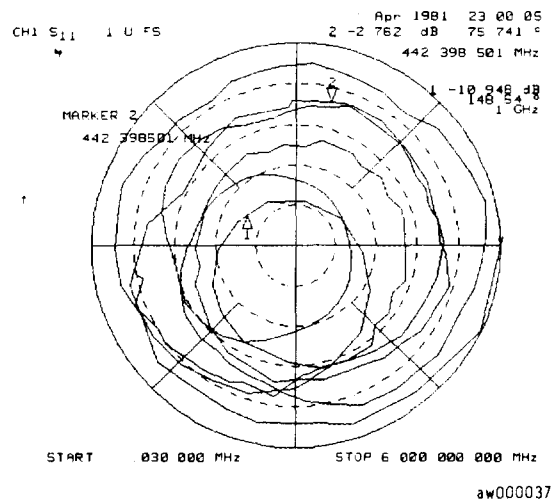

Figure 7-19. Example S₁₁ Measurement Trace in Polar Format with Markers
- 2 Press **SCALE REF**, *AUTO SCALE* to reposition the trace as shown in Figure 7-19.
The HP 8702D shows the results of an S_{11} measurement with each point on the polar trace corresponding to a particular value of both magnitude and phase. The center of the circle represents a reflection coefficient (Γ) of 0, (that is, a perfect match or no reflected signal). The outermost circumference of the scale shown in Figure 7-19 represents $\rho = 2.00$, or 200% reflection. The phase angle is read directly from this display. The 3 o'clock position corresponds to zero phase angle (that is, the reflected signal is at the same phase as the incident signal). Phase differences of 90° , 180° , and -90° correspond to the 12 o'clock, 9 o'clock, and 6 o'clock positions on the polar display, respectively.
4 Turn the front panel knob to position the marker at any desired point on the trace, then read the frequency, linear magnitude and phase in the upper right hand corner of the display, as shown in Figure 7-19.